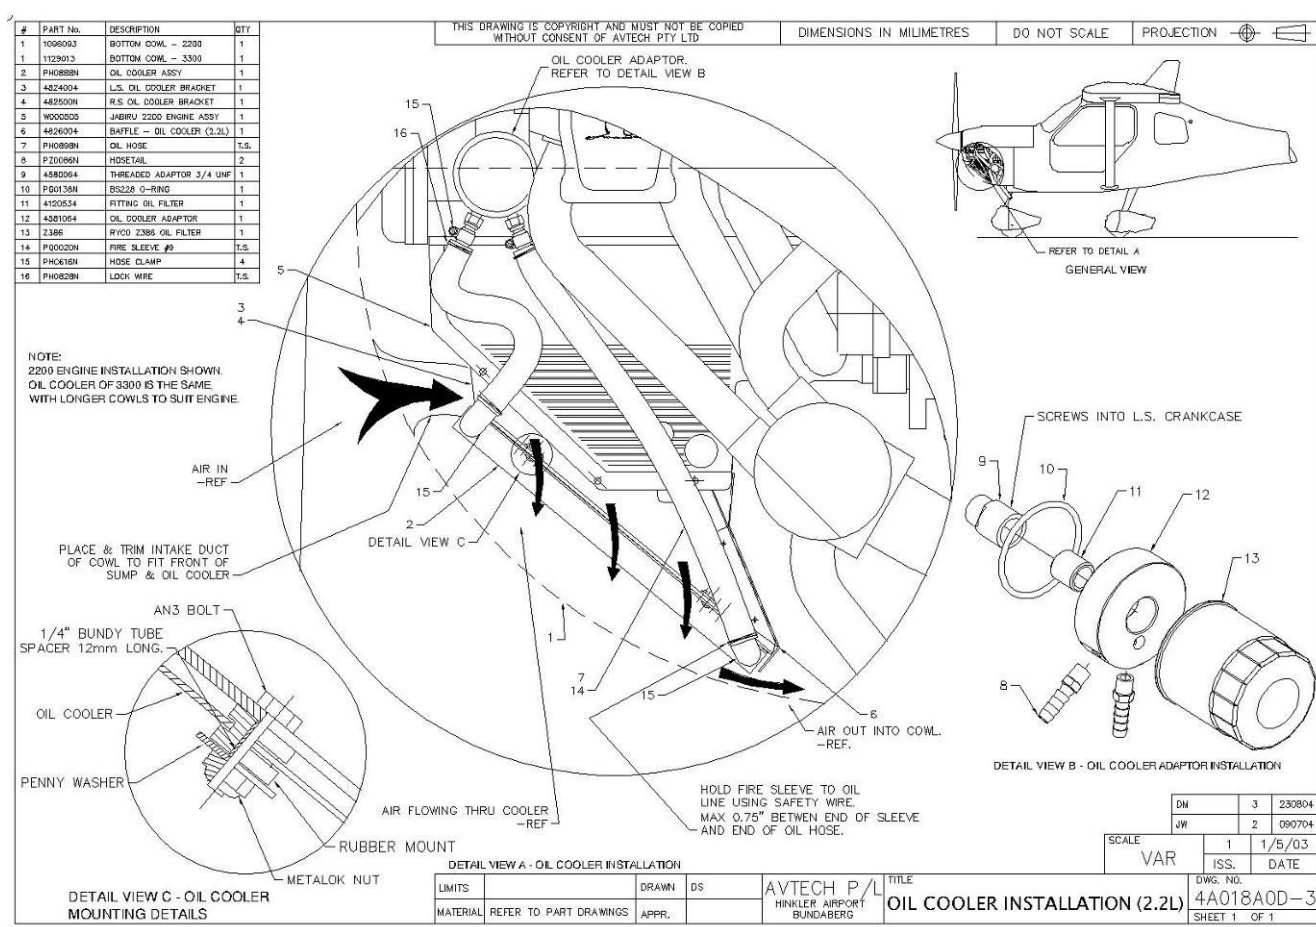

Figure 53. Oil Cooler Installation
- Figure 53 shows an oil cooler installation of a Jabiru 3300. Note Detail C in the lower corner of the drawing, which shows the cooler being fitted using rubber mounts. This is very important as it insulates the cooler from engine vibrations – coolers installed with a soft mount like this are much less likely to fail in service.